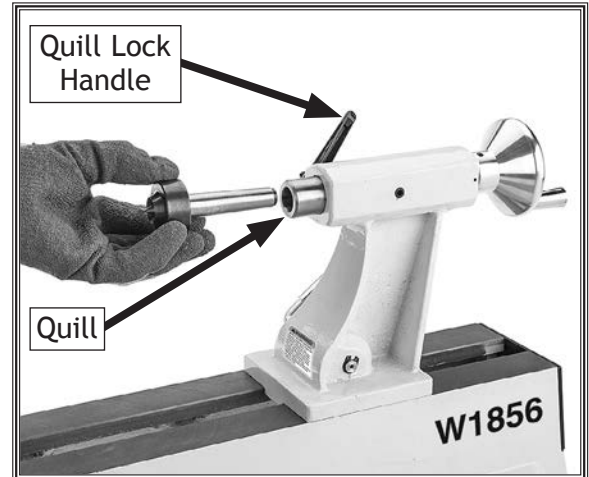

Figure 17. Example of installing center into tailstock quill.
1. Loosen quill lock handle, and rotate handwheel until quill extends about 1", as shown in **Figure 17**.
3. Firmly insert tapered end of center into tailstock quill, as shown in **Figure 17**.